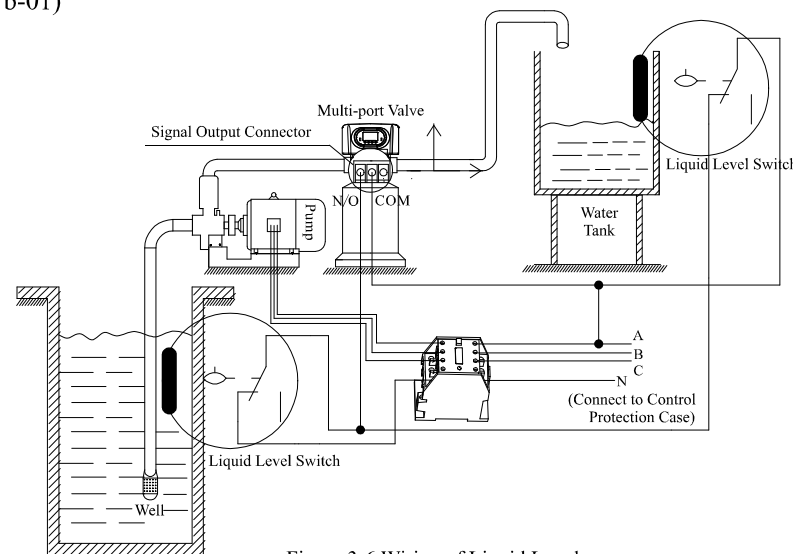

Figure 3-6 Wiring of Liquid Level Controller Controlling 380V Inlet Pump
3). Liquid Level Switch in Water Tank Controls Inlet Pump (Three-phase, Figure3-6) (Set b-01)